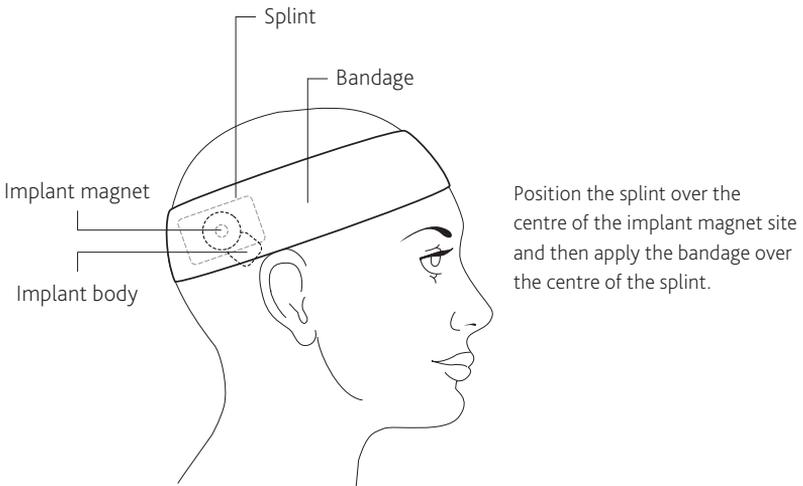

Figure 8: Fitting the MRI Kit splint and compression bandage
2. Use the elasticised compression bandage from the MRI Kit and ensure the centre line of the bandage is over the implant magnet site and the splint is fully covered. See **Figure 8** below.